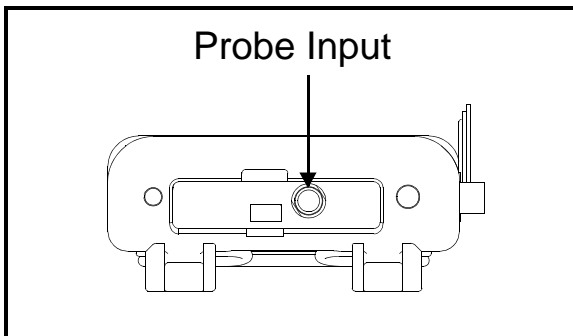

Figure 12: Connection Locations
3. Connect the other end of the probe cable to the top of the unit by aligning the red dot on the cable connector at the 12 o'clock position. See Figure 12 for the connector location.